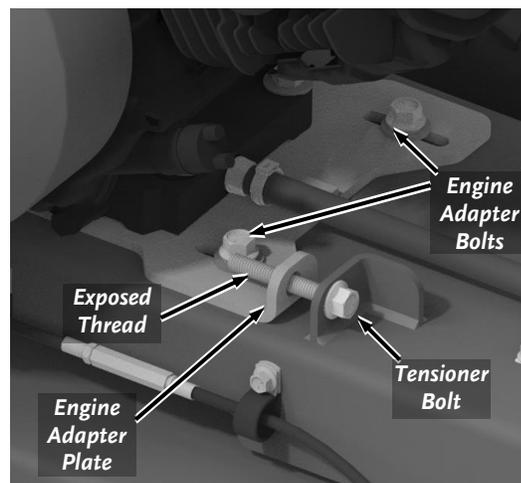

Figure 27
2. Loosen the Tensioner Bolt using a 9/16" Wrench until there are no more Exposed Threads past the Engine Adapter Plate (**Figure 27**).
3. Loosen the four Engine Adapter Plate Bolts using a 9/16" Wrench. There are two Bolts in the front of the Engine and two behind the Engine (**Figure 27**).